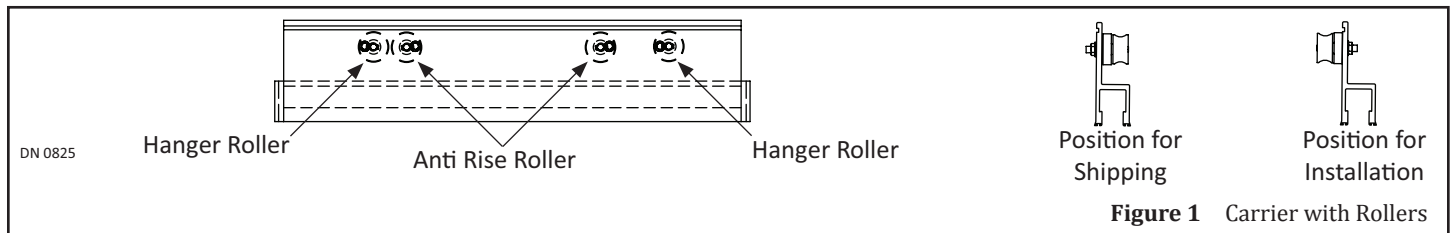

Figure 1 Carrier with Rollers
- a. Ensure each Roller is horizontally aligned to each other. Please see Figure 1.